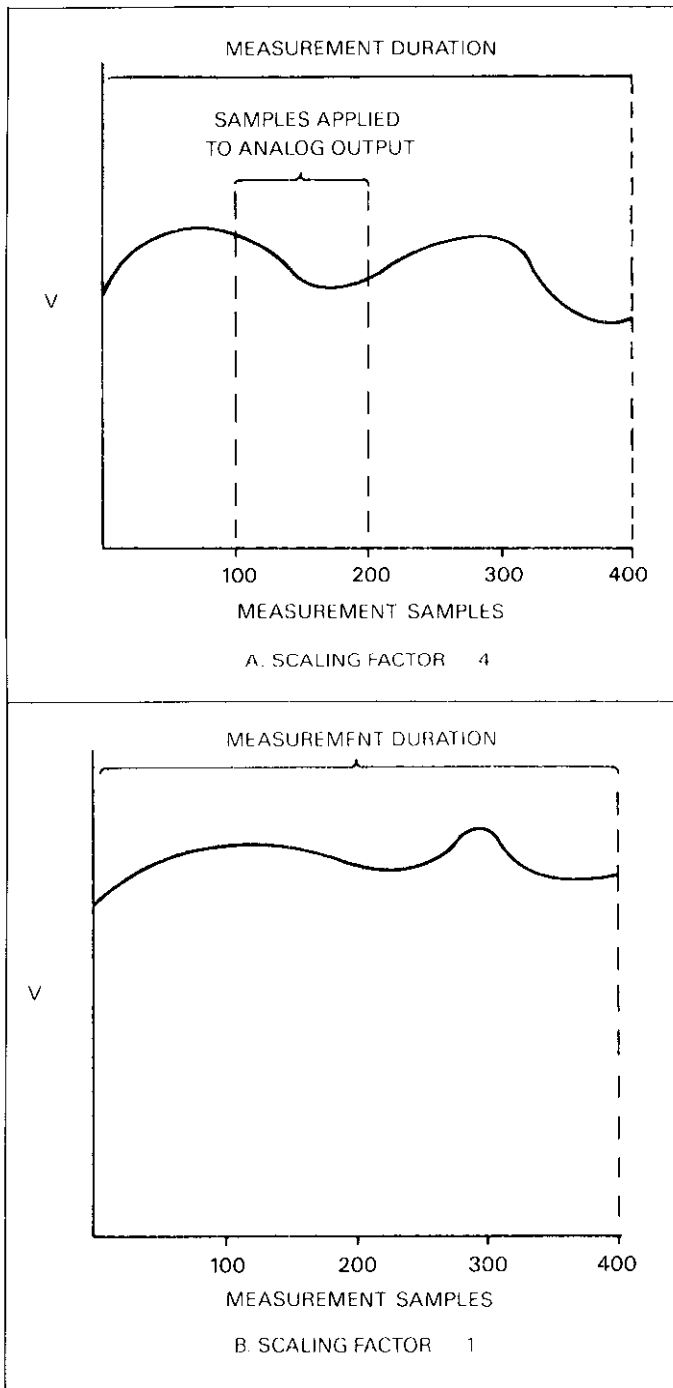

Figure 3-11. How Scaling Factor Affects Viewed Data
Figure 3-11 demonstrates how using XY ZOOM can help zoom in on a portion of a plotted waveform. In (A), a scaling factor 4 is applied, with the result that only 100 of the 400 samples are reflected in the analog output sequence. In (B), a scaling factor of 1 is applied, so the entire measurement buffer is plotted. In this instance, only every fourth sample is reflected in the final signal. Thus, an appropriate scaling factor can be used to effectively increase resolution in cases where only a portion of a measurement requires graphing.